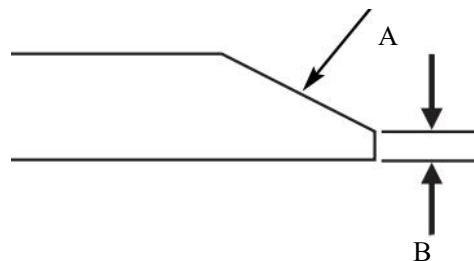

Fig. 13
- Keep the original bevel (A, Fig. 13) when grinding. **DO NOT** change the mower blade bevel.
- The mower blade should have a maximum 1/64" (0.40mm) cutting edge (B, Fig. 13) or less.